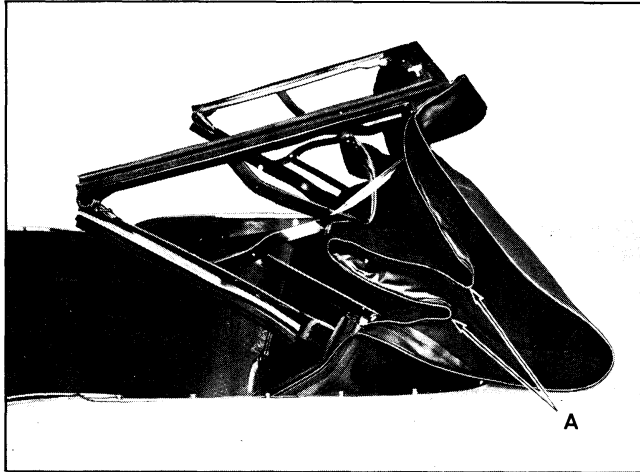

Fig. 22-5 Pull Padding from Between Arms
- A. Actuate power top control switch until front top rail is approximately two feet from full down position (Fig. 22-5).
B. On right and left side of body, pull top material and padding "A" from between operating arms of top (Fig. 22-5).
C. Pull top material and padding "A" from between operating arms of top as shown in the illustration (Fig. 22-5).